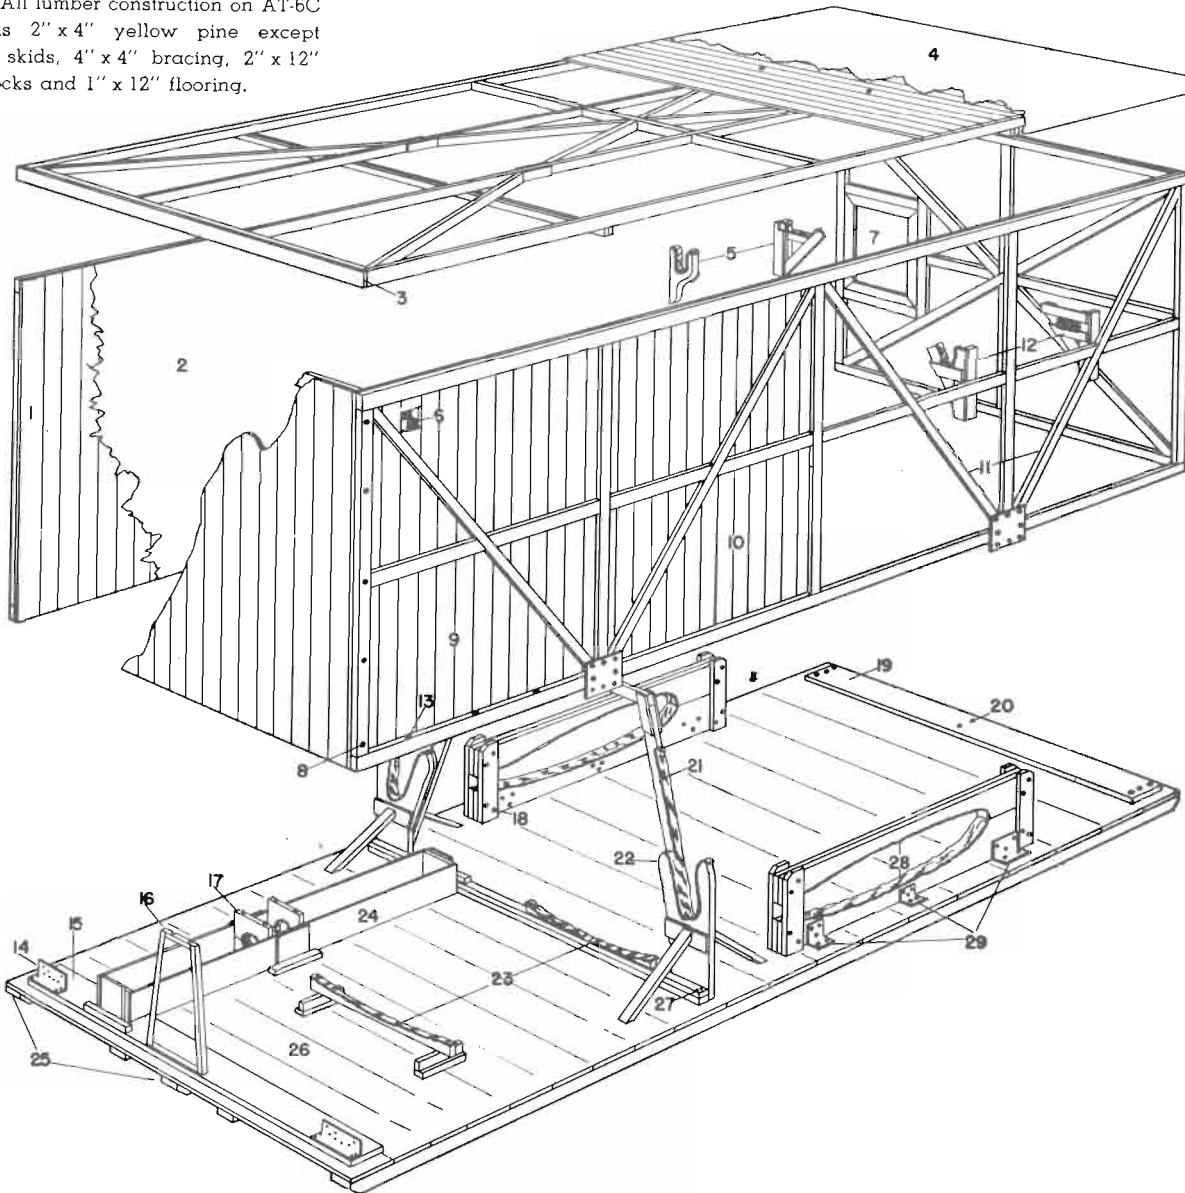

Figure 8 — Airplane Crate
a. GENERAL.—(See figures 8, 9, 10, 11.)—After preparations for crating have been made, which include the draining of fuel, oil, and hydraulic systems (exclusive of the brake system), and the coating of exposed metal parts with a film of corrosion preventive, the airplane then is partially disassembled to facilitate shipment. The main section of the airplane, consisting of the entire fuselage, wing center section, and power plant, is hoisted into position on the platform section of a wooden crate. The crate consists of the platform and the ceiling and wall assemblies, which are hoisted into their proper positions and rigidly secured by bolts and screws. The wing outer panels, tail assemblies, propeller, and loose equipment are securely mounted by means of webbing to "cradles" in various positions in the crate. After the crating has been completed, the waterproofed roof inspected for possible cracks or tears, final inspection seals affixed, and hoisting notches cut to facilitate further handling, the airplane is ready for shipment. Location of cradles and containers within the crate are listed as follows:
#### Key to Figure 8
- (l) Assemble sides and support with cross braces, using dollies, hoists, or any other available equipment. Lag screws and bolts are used in assembling, as illustrated in figure 8.